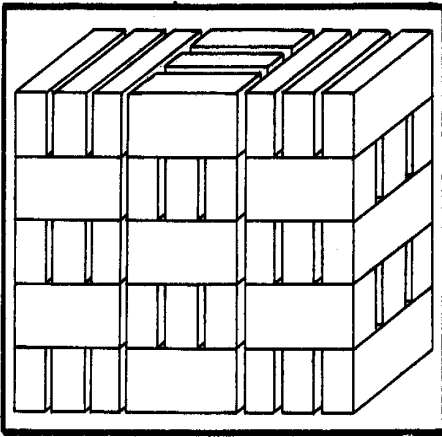

Fig. 21 - Blocks stacked for 10-day cure
67. After the overnight drying, the blocks should still be protected from the weather because they must still cure slowly for four or five more days. Soaking will harm the blocks at this stage. Sunshine will make them cure too quickly, reducing their strength. In very hot climates blocks should be kept moist during this period. In any climate they should be prevented from curing too fast. For the first four days they should be sprinkled lightly with water twice a day. A plastic cover is useful to maintain moisture in the pile. If lime is used, double the curing time. The blocks can be restacked ten rows high on edge for the next curing period of 10 days. The blocks must not be stacked solidly; there should be a space of about an inch between blocks to let them cure properly. A good stacking arrangement is three blocks side by side with an inch space between them crossed with three blocks above -- alternating the direction of each layer (See Fig. 21).